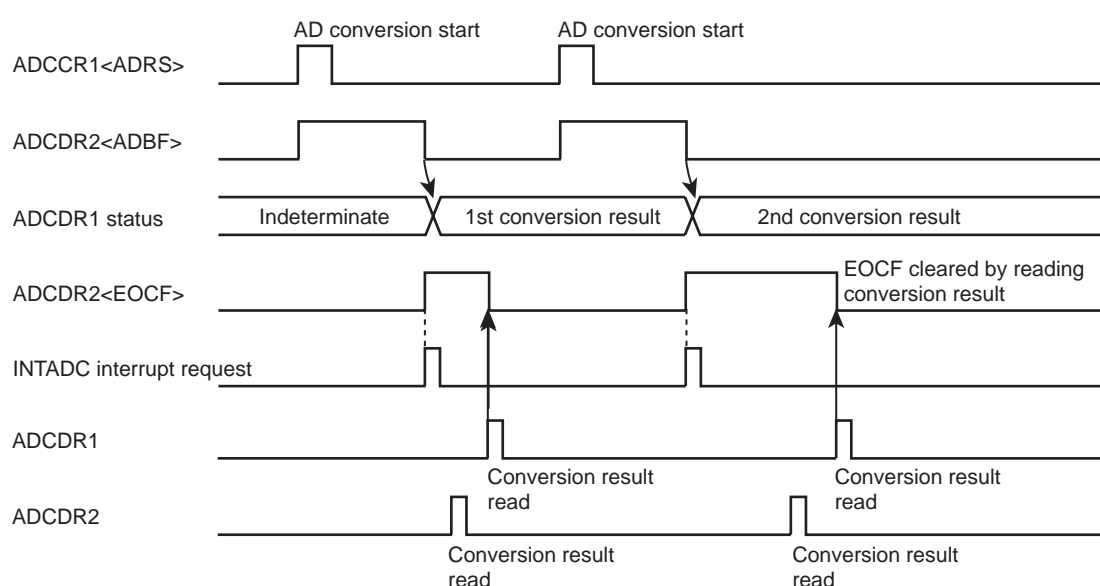

Figure 17-2 Software Start Mode
- Set the AD conversion time using AD conversion time (ACK). For details on how to set the conversion time, refer to Figure 17-1, Figure 17-2 and AD converter control register 2.
- After setting up (1) and (2) above, set AD conversion start (ADRS) of AD converter control register 1 (ADCCR1) to "1". If software start mode has been selected, AD conversion starts immediately.